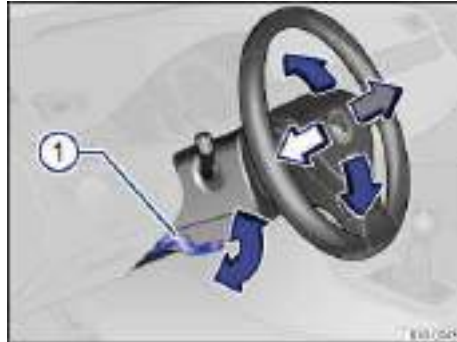

Fig. 50 Manual adjustment for steering wheel position.
- Push down on the lever ⇒ fig. 50 \(1\).